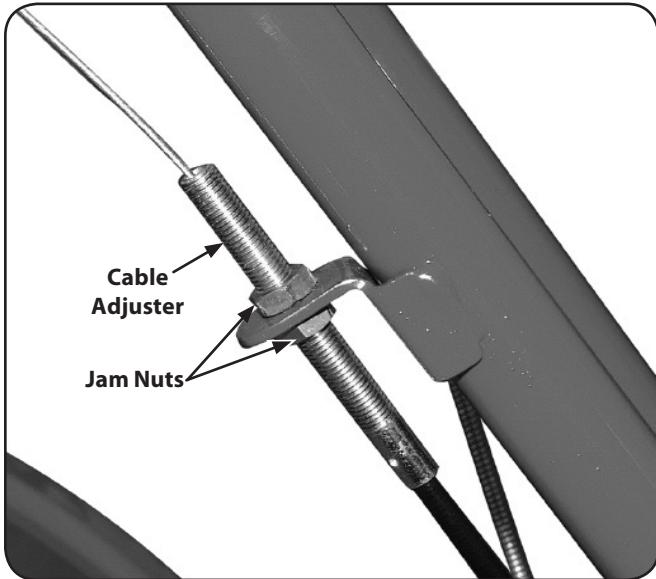

Figure 3-8
3. Attach the cable adjuster to the bracket on the right-side handlebar. See Figure 3-8. Use the two  $\frac{1}{2}$ " wrenches to loosen the two jam nuts just enough to slide the cable adjuster onto the bracket. Then hand tighten the jam nuts.